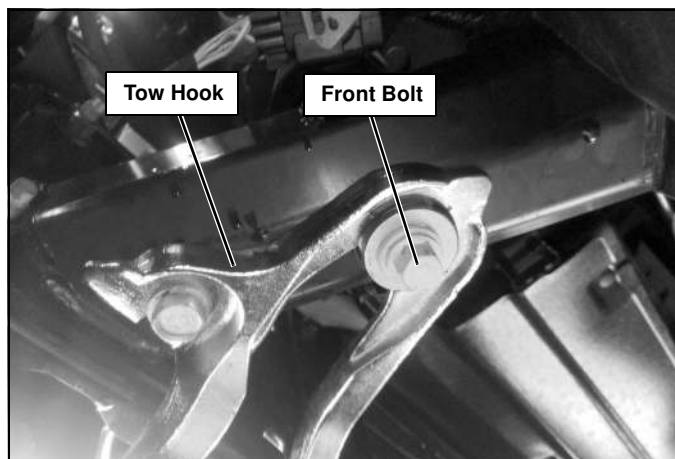

Figure 3
- Remove the tow hooks, if equipped, by taking out the front bolt and sliding the tow hook off the rear rubber bushing. (See Figure 3.) Retain the hardware for installing if plow mount is removed.